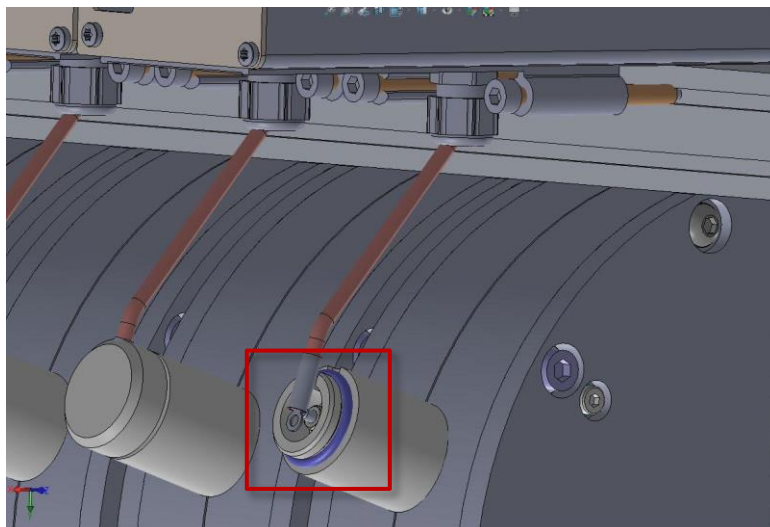

Figure 54 Remove high voltage cable
3. Carefully remove the high voltage cable from the reactor, see Figure 54.